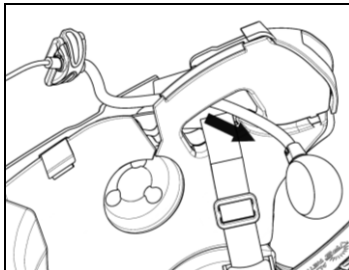
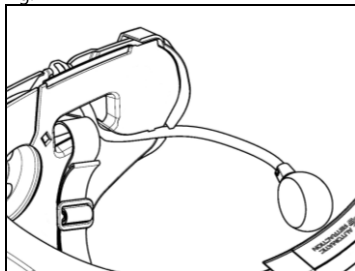

Fig. 12
Fig. 13
- Insert the microphone into the eyelet (Fig. 12) and position it in the special housing, then inserting the boom pole of the microphone in the groove found in the chin guard coupling frame (Fig. 13).